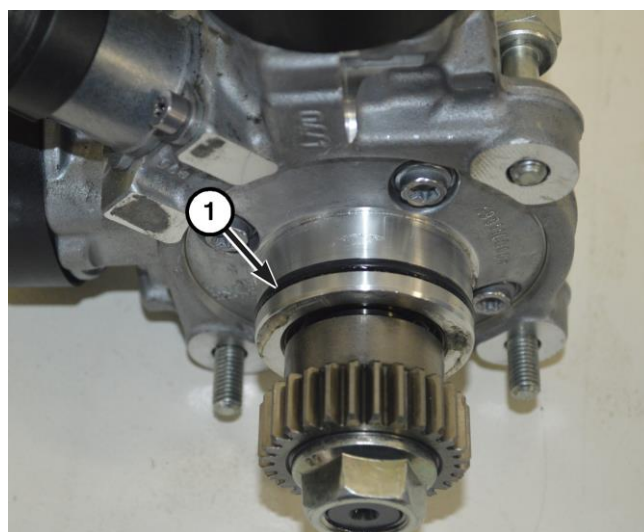

Figure 66 – HPFP O-ring
19. Install a **NEW** O-ring seal (1) to the fuel injection pump (Figure 66).